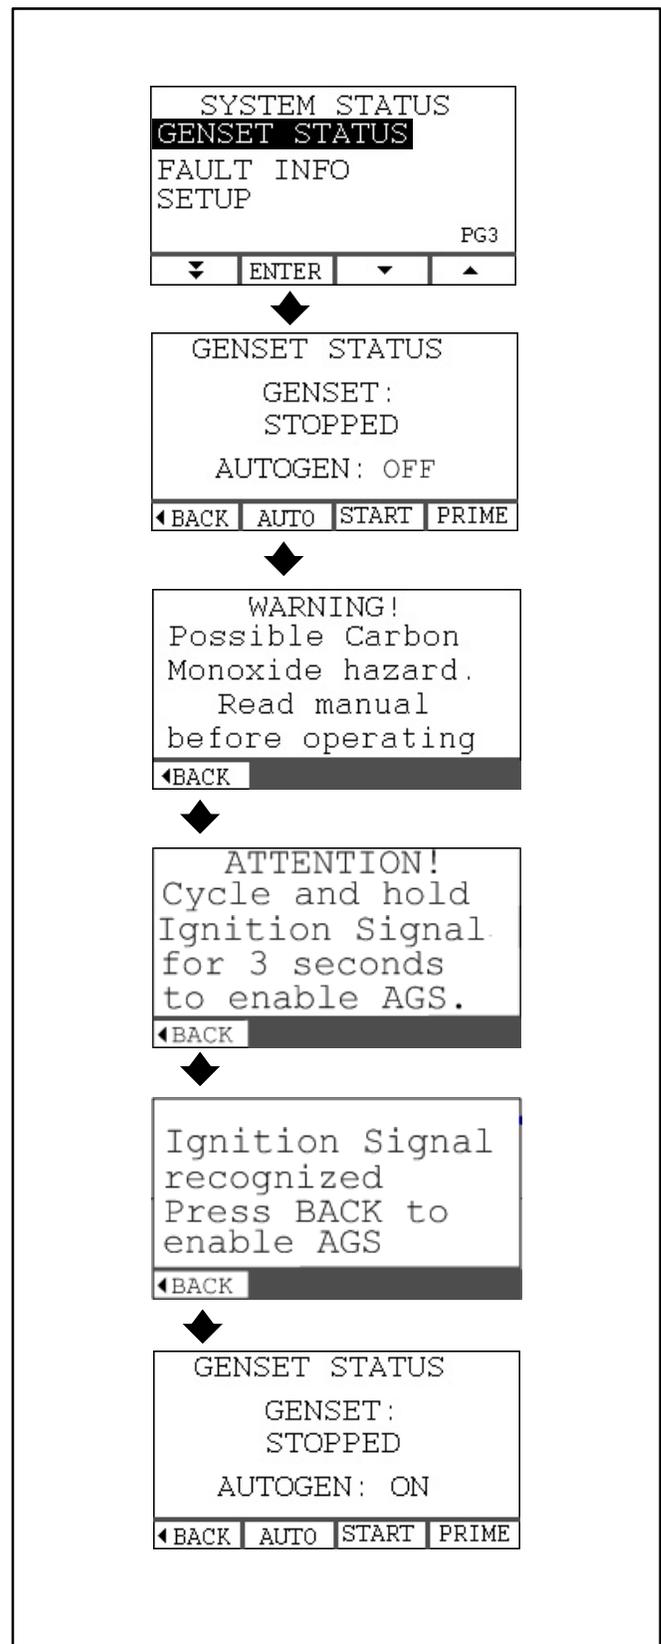

FIGURE 4-14. TO ENABLE AGS
**Vehicle / Trailer Parked Less Than 30 Days:** Go to the GENSET STATUS screen and press AUTO (Figure 4-14). A Carbon Monoxide Warning screen will appear (third screen). Press ◀BACK on the warning screen to enable AGS. The GENSET STATUS screen (last screen shown) should reappear and indicate that AGS has come ON. The AUTO GEN light should also come on. If there is a genset start condition, AGS will attempt to start the genset.
**Vehicle / Trailer Unattended for 30 Days:** When you press ◀BACK on the Warning screen the next screen down in Figure 4-14 will appear. It will instruct you to “cycle” the Ignition, Parking Brake, Brake Light or Park/Neutral signal. See AGS Setup on Page 4-25. To cycle the signal, turn it ON if is OFF when parked or OFF if is ON when parked, and hold it for 3 seconds.
**If the safety circuit is sound,** the next-to-the-last screen shown in Figure 4-14 will recognize the signal. Before pressing ◀BACK to enable AGS, cycle the signal device back to its park position. Then press ◀BACK to enable AGS. The AUTO GEN light should come on.